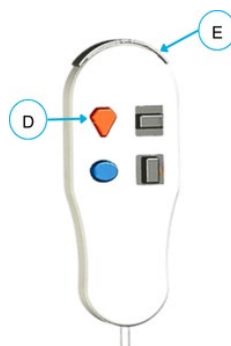

Figure 12-23: Controller Vapor Delivery Button and Perineal Saline Flush Button
3. Press the **Vapor Delivery Button (D)** and hold down until treatment is complete (**Figure 12-23**).
4. After completion of a full 10 second treatment, the **Vapor Delivery Button (D)** should be released.
■ **NOTE:** At any time, extra saline can be injected through the Transperineal Saline Catheter Needle into the periprostatic space by pressing the **Perineal Saline Flush Button (E)** at the top of the Controller (**Figure 12-23**).